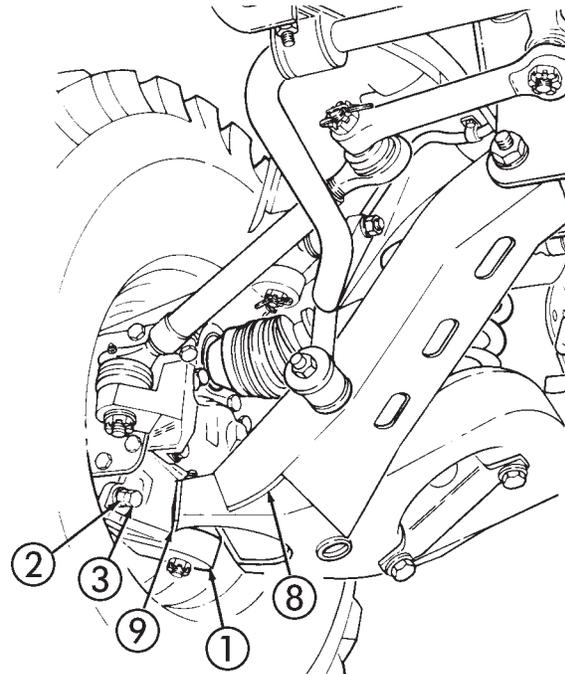

Figure 7-13.
4. Again, using a protractor, draw a third reference line "C" (4) at 36° where lines "A", "B", and "D" intersect. Mark this line "C".
7. If the centerline of front and rear of left front tire (7) is over area between lines "B" and "C", no adjustment is necessary.
8. If centerline of front and rear of left front is not over area between lines "B" and "C", loosen jamnut (2) and turn capscrew (3) all the way in. See Figure 7-13.